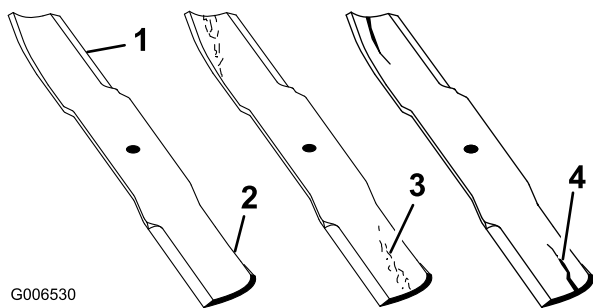

Figure 53
1. Inspect the cutting edges (Figure 53). If the edges are not sharp or have nicks, remove and sharpen the blades. Refer to Sharpening the Blades.
2. Inspect the blades, especially the curved area (Figure 53). If you notice any damage, wear, or a slot forming in this area (Figure 53), immediately install a new blade.